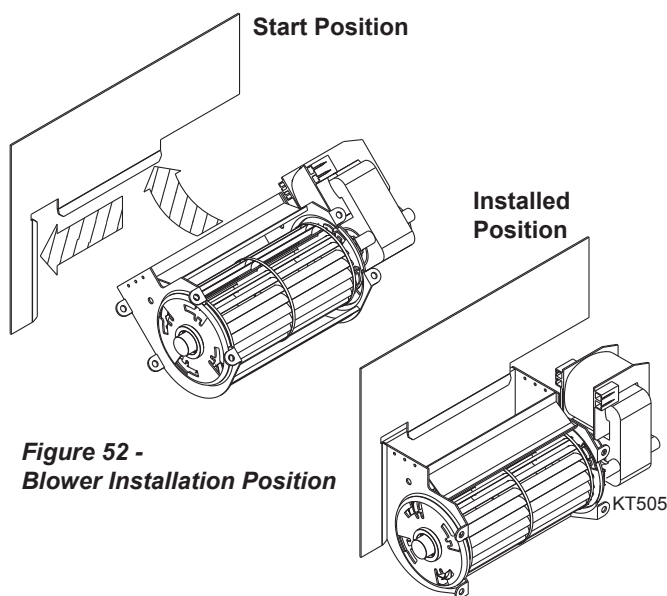

**Figure 52 -
10. Turn blowers with discharge vent facing up. Slide the discharge vent so that it is facing up. Slip discharge vent flange under the flange bracket flush against the sidewall. Slide blower side tabs over into side flange. *Figure 52*. The blower is now locked in place.